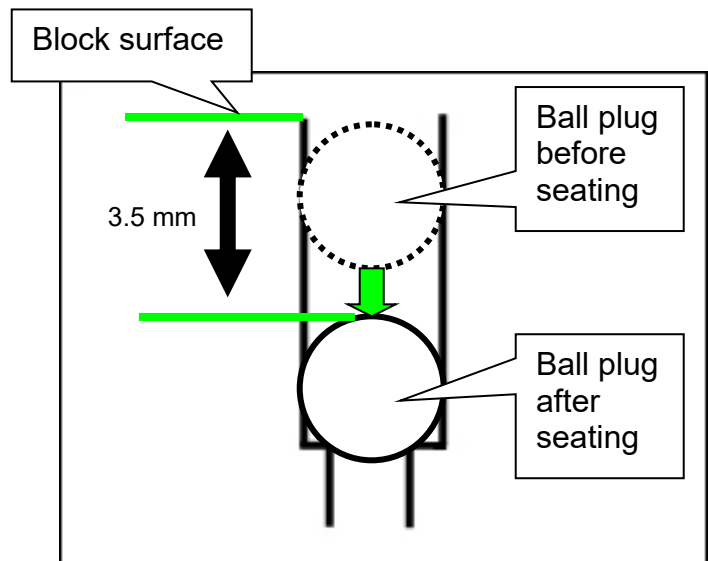

Figure 4
- You will feel the ball become solid when it "bottoms out" (fully seats) as shown in Figure 4.